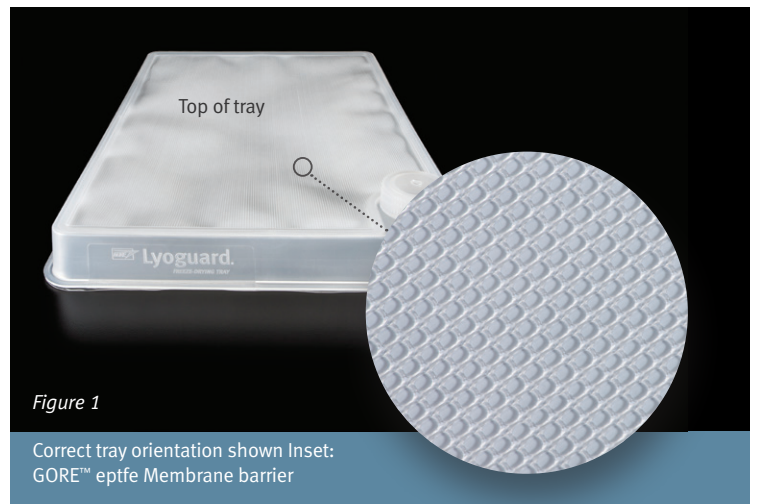

Figure 1
- Remove GORE® LYOGUARD® Trays from packaging. The tray should be oriented with the membrane facing up. The membrane side is the top of the tray (Figure 1).